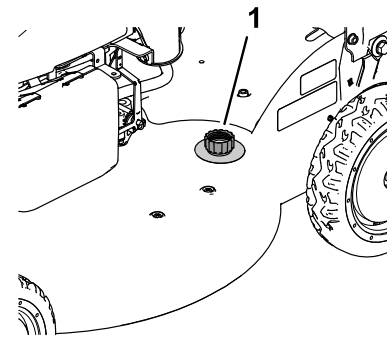

Figure 34
4. Attach a garden hose that is connected to a water supply to the washout port on the machine (Figure 34).